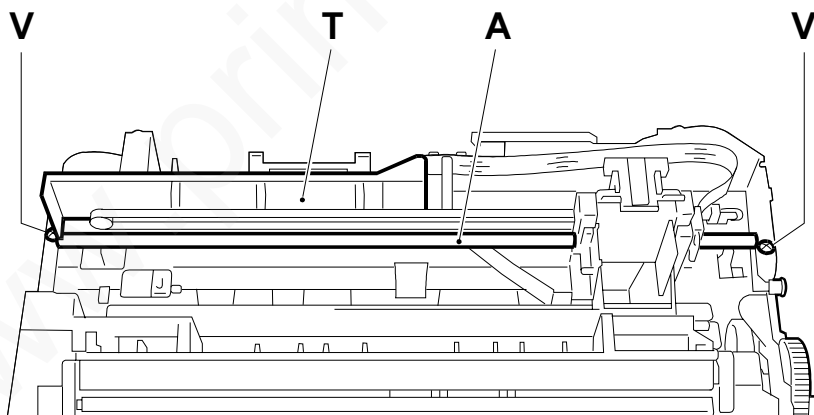

Fig. 7-39
- 4) Extract the two screws **V** and flip frame **T** forward, then disconnect the belt from the motor sprocket and flex the sides of the frame to release the guide shaft **A** (Fig. 7-39):